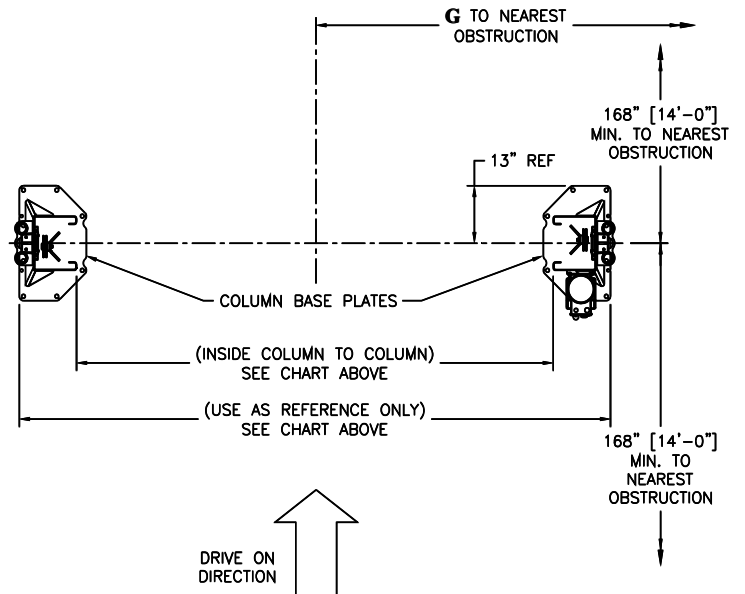

Fig. 1b - Service Bay Layout
- Lay out the service bay according to the architect's plans or owner's instructions (**see Fig 1b–Service Bay Layout**). **Failure to install in this orientation can result in personal and property damage.**